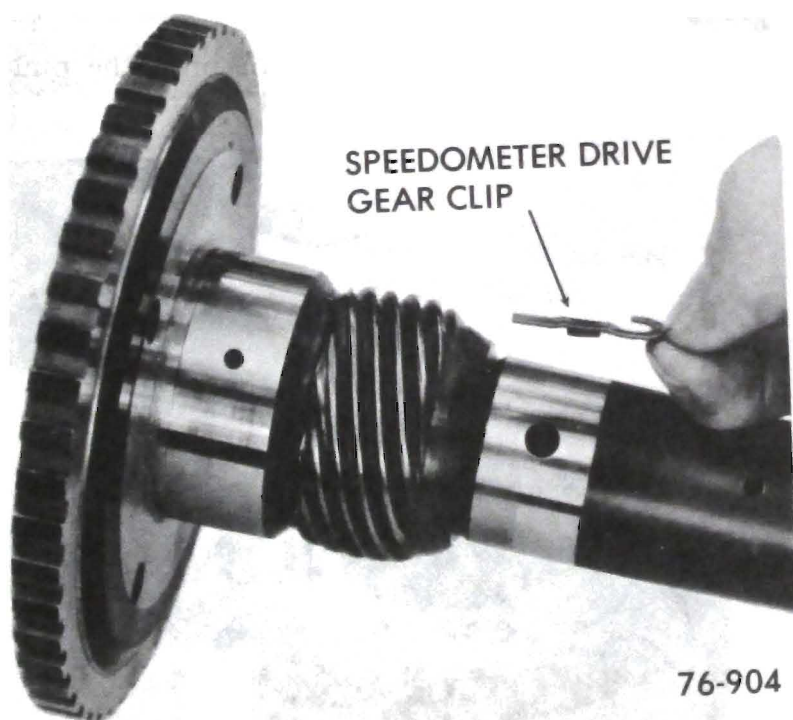

Figure 76-111
c. *Nylon Speedometer Drive Gear:* Depress retaining clip and slide nylon gear off output shaft. See Figure 76-111.
d. To install, place retaining clip (square end toward flange of shaft) into hole in output shaft. See Figure 76-111.